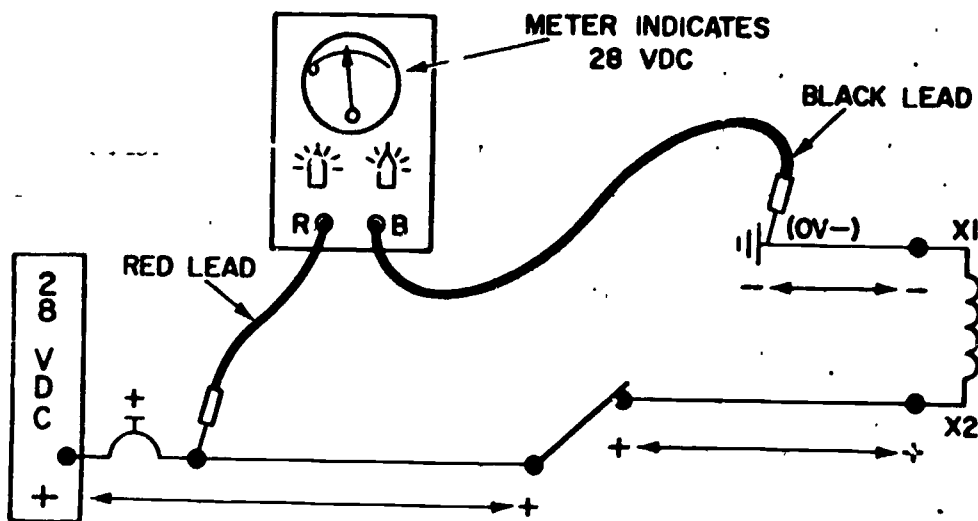
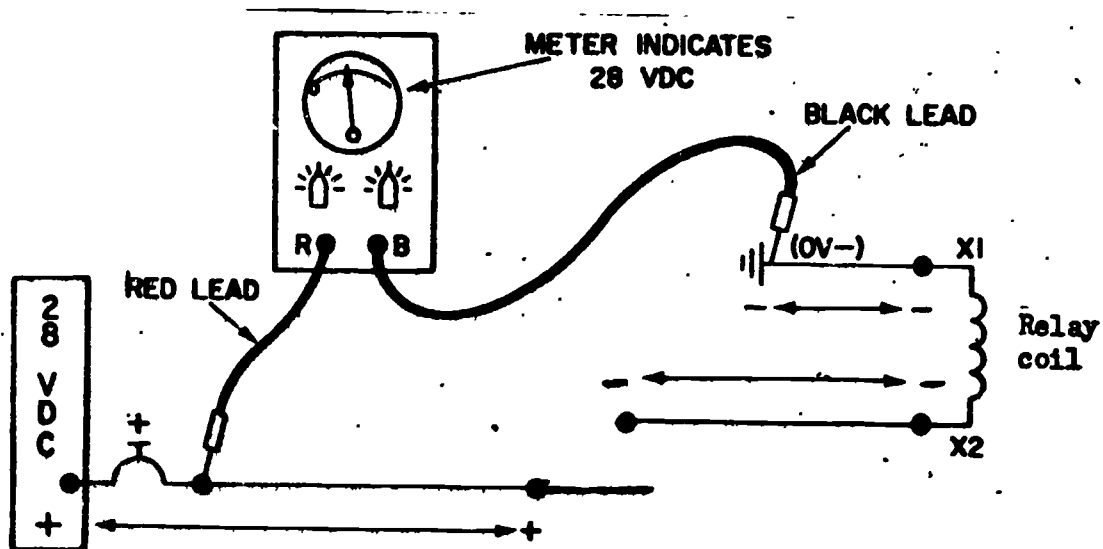

Figure 4.
Figure 5.
d. Now let's see how the meter **MUST** be connected to the circuit to get a voltage reading. In figure 4 note that the black meter lead has been placed at the common ground point, further note that the RED meter lead is placed at the circuit breaker checkpoint.
(1) The voltmeter in figure 4 will now indicate a reading of 28V DC. Why? This is because of the distinct difference between the (+) and (-) points caused by the resistance (relay coil) between the two meter test points in the circuit. This voltage reading is obtained with power on.
(2) In figure 5 there is infinity resistance in the open contacts of the switch. The open in the switch is a NORMAL condition if the switch is turned to the OFF position. This causes the meter to read 28V DC as shown in figure 5. Remember back in figure 4 the meter also read 28V DC. This was with the switch closed and the reading was caused by the resistance of the load (relay coil).
Note: Compare the polarities (+) and (-) on X2 from figures 4 and 5. They changed because of the switch position.